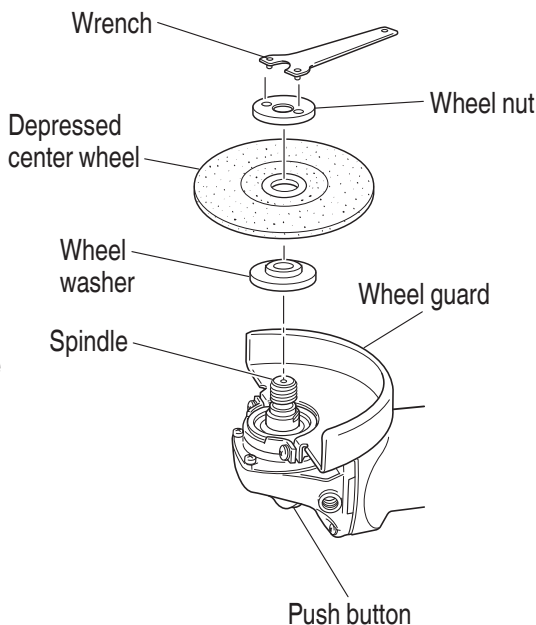

Fig. 2
Confirm that the push button is disengaged by pushing push button two or three times before switching the power tool on (See **Fig. 2 on page 26**).
ASSEMBLING AND DISASSEMBLING THE DEPRESSED CENTER WHEEL (Fig. 2)
1. Assembling (Fig. 2)
Tighten the wheel nut by using the supplied wrench as shown in Fig. 2.